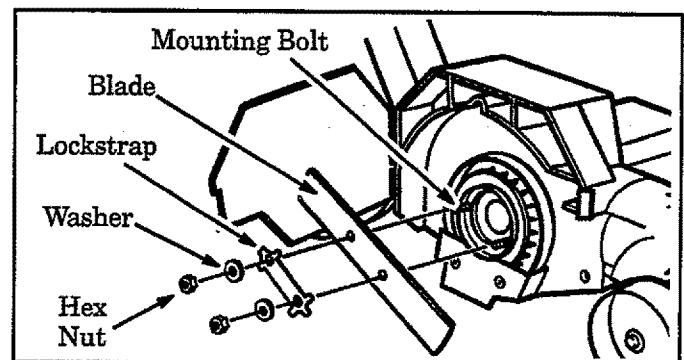

Figure 11
4. Remove the hex nuts, washers, lockstrap, and blade from the unit. Figure 11.
6. Reverse or replace blade; then, set it into position over both mounting bolts. Figure 11.
7. Replace lockstrap, washers, and hex nuts. Figure 11. Tighten hex nuts securely.